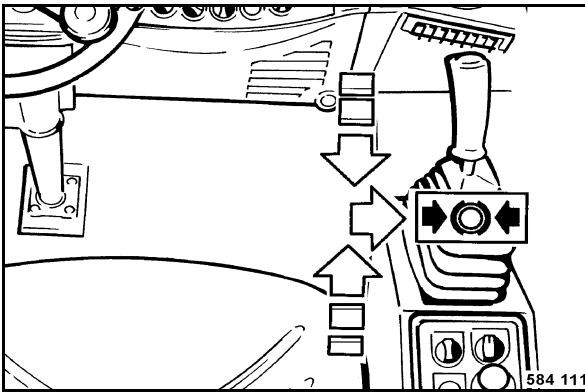

Fig. 60
- Return the travel lever (Fig. 60) slowly to "neutral"-position and engage it to the right in braking position.